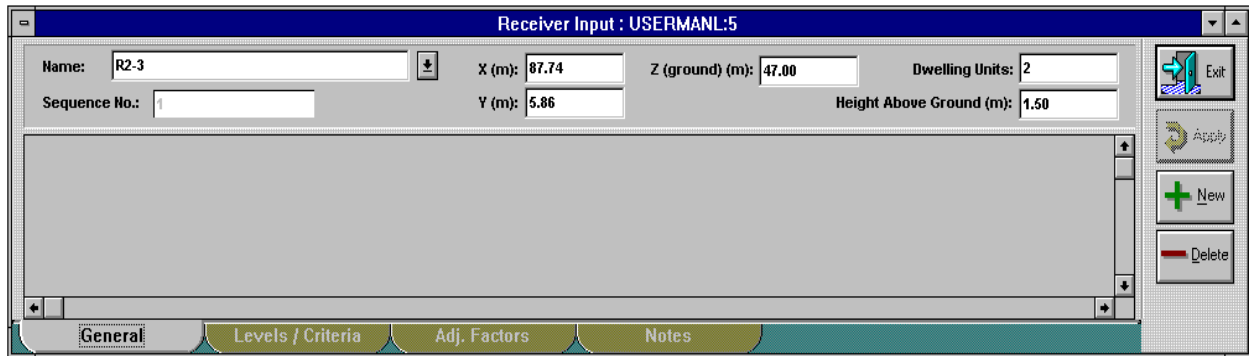

Figure 27. Receiver input: General tab.
2. Select  on the receiver input dialog (see Figure 27).